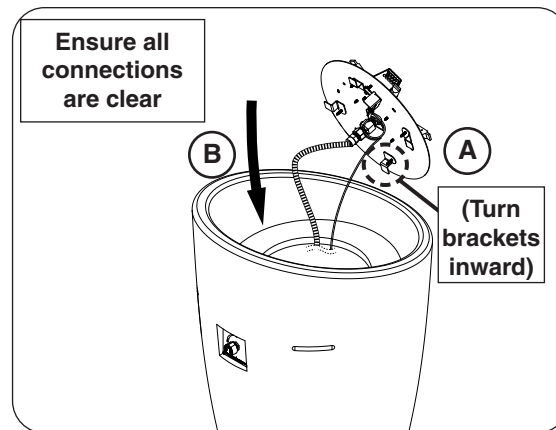

Fig. 22-1 Insert burner assembly
1. Ensure that the four burner brackets are turned inward, then insert the burner assembly (see Fig. 22-1, A-B).
Replace the storage door (that was previously removed during the assembly section). Ensure the door is secure in place (see Fig. 22-1). Door design may vary.